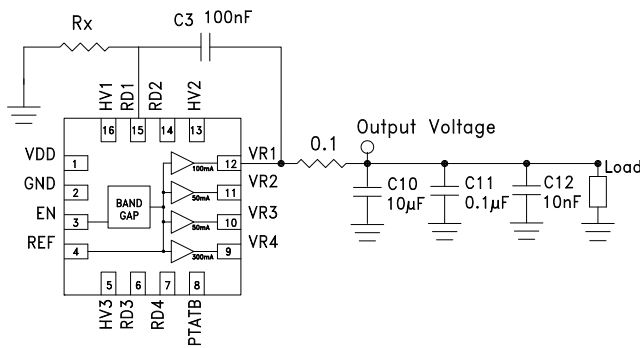

Figure 16. Recommended HMC1060LP3E configuration for supplying output voltage values greater than default. [4]
Other output voltages values that are greater than the default value are achieved by using an external resistor Rx as shown in Figure 16. Output configuration in Figure 16 supports both PTAT mode enabled and disabled.
3. To set VR1 = 5 V in PTAT Mode, external resistance Rx = 40.3 kΩ shown in Figure 16 is required. Please note that for optimal temperature compensation, the 5 V level on VR1 can be achieved by connecting 5.7 kΩ (40.3 kΩ – R3) from HV1 pin to GND (see Output Configuration Table for more detail). This is due to the fact that the internal resistors of the HMC1060LP3E have a temperature coefficient of +270 ppm/°C. When the default output voltage is modified by using an external resistor with a different temperature coefficient, the temperature behavior of the respective output will differ from this specification, although the difference will likely be insignificant.